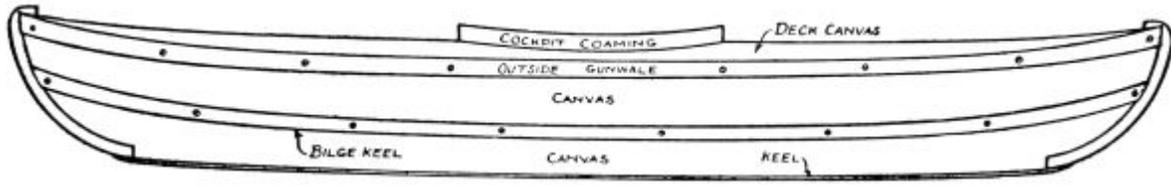

FIG. 212.—The Canvas Canoe completed.
**The Keel.**—So cut a lattice-strip eight feet in length, and screw it along the bottom of the keelson (see Fig. 212).
**The Bilge-keels** are lattice-strips fastened along the sides of the canoe as a protection to the canvas, and should be attached directly over the ribbands. One of these on the centre ribband of each side will be sufficient (see Fig. 212).
**Outside Gunwales** should be attached outside of the present ones. These will cover the joint between the canvas of the deck and the lower portion of the framework. All of these outside strips should be fastened in place with the round-headed screws, after which they should be painted. Figure 212 shows the canoe completed.